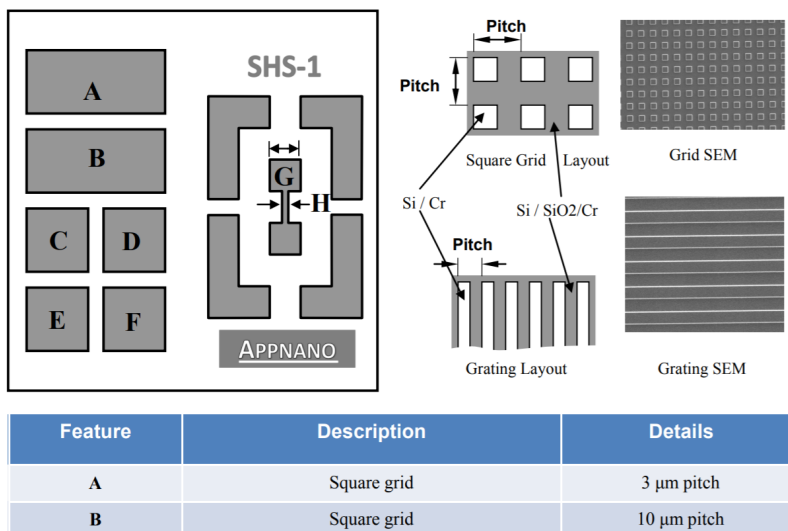

Figure 28: Calibration sample schematic
1. Perform a large enough topography scan of a clean area in Feature B region of the calibration sample. This region contains square pits with $10\ \mu\text{m}$ lateral pitch and $102\ \text{nm}$ vertical depth (Fig. 28), so the scan needs to be $> 20\ \mu\text{m}$ to cover multiple periods (See Fig. 17 for an example). It is helpful to rotate the sample such that the grid is aligned with the scan X/Y direction. Pay attention to Scan Rotation.